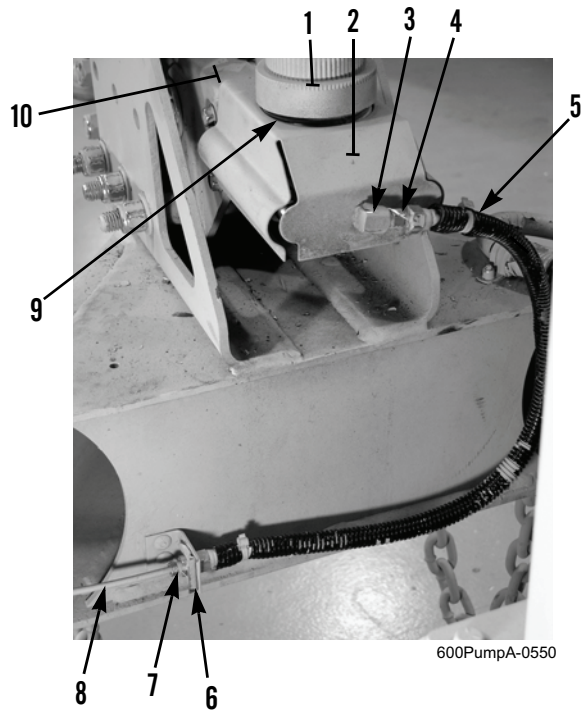

Figure 1. Master Cylinder and Flex Brake Line.
1. Place a suitable container under flex brake line (Figure 1, Item 5) and master cylinder (Figure 1, Item 9).
2. Loosen nut (Figure 1, Item 7), remove frame bracket clip (Figure 1, Item 6), and disconnect flex brake line (Figure 1, Item 5) from front solid brake line (Figure 1, Item 8). Install temporary plug in flex brake line.
3. Disconnect flex brake line (Figure 1, Item 5) from straight adapter (Figure 1, Item 4).
4. Remove straight adapter (Figure 1, Item 4) and elbow (Figure 1, Item 3) from orifice of master cylinder (Figure 1, Item 9). Plug orifice of master cylinder.
5. Remove cap (Figure 1, Item 1) from master cylinder (Figure 1, Item 9).
6. Remove access cover (Figure 1, Item 2) from actuator housing (Figure 1, Item 10). Reinstall cap (Figure 1, Item 1) on master cylinder (Figure 1, Item 9).